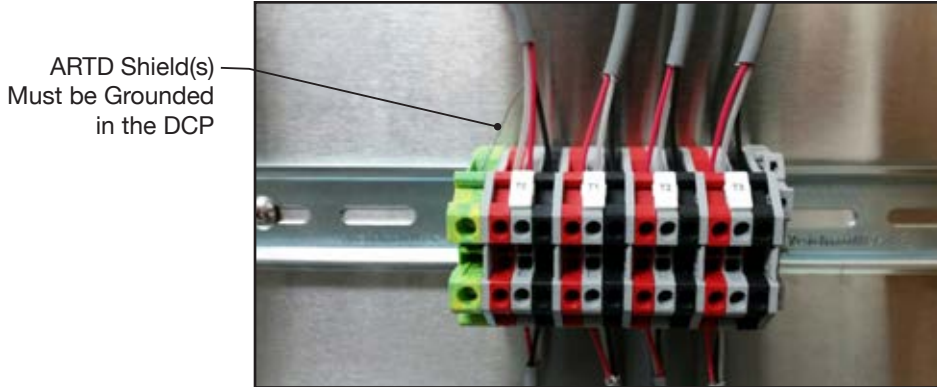
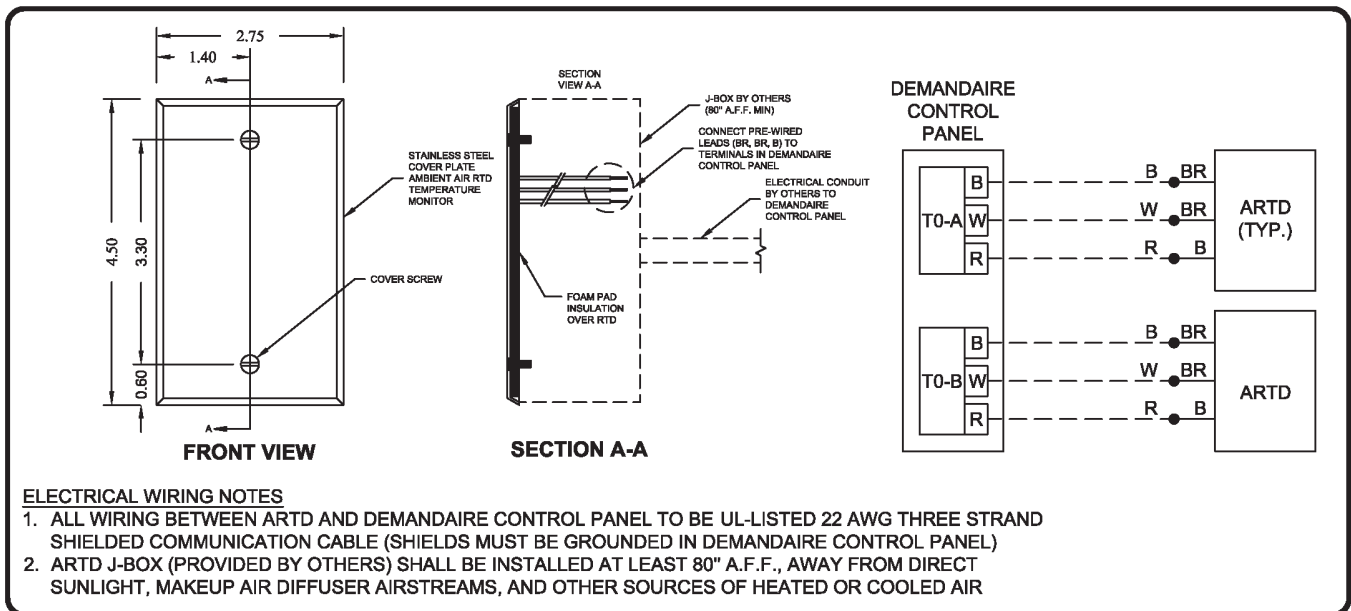

Figure 9: ARTD Wiring Connections in DCP
FIGURE 10: ARTD Installation Details
- The ARTD requires a 2x4 J-Box to which it may be directly mounted (Figure 10).
- Connect the terminal blocks labeled T0-A, T0-B, etc., in the control panel to the ARTD using UL-Listed 22 AWG Three Strand Shielded Communication Cable (Figure 9). Connect the black lead on the monitor to the red wire leading to the DemandAire control panel. Connect one of the brown leads on the monitor to the black wire leading to the control panel and connect the other brown lead on the monitor to the white wire leading to the control panel (Figure 10).